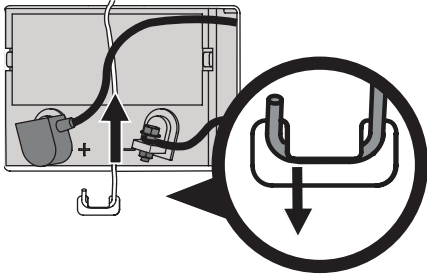

Fig. 23
- Remove the battery hold down bracket by pushing the hooked end out of the tab on the fender to the right side of the battery. Then flip the battery hold-down bracket up to free the battery (Fig. 23).